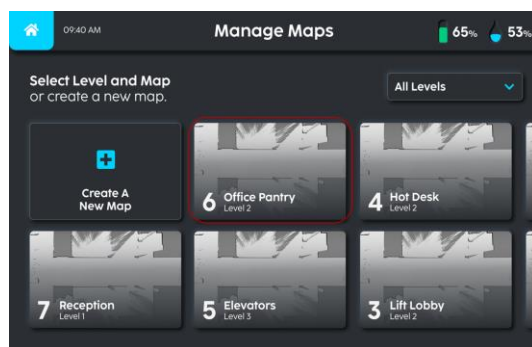

FIGURE 4-7
1. Select the map to be deleted (Fig. 4-7).